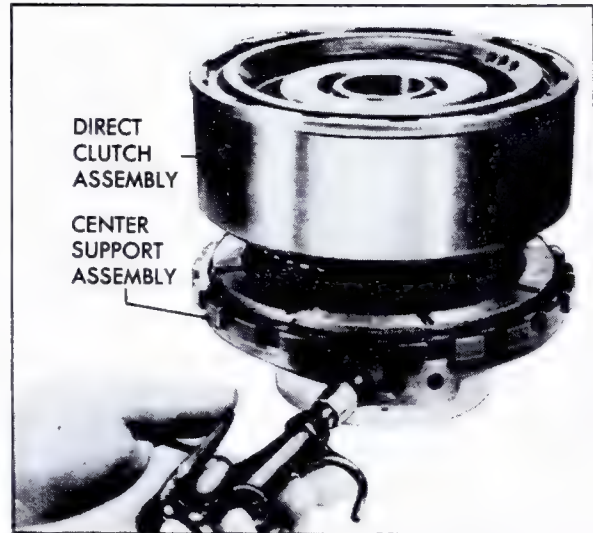

Fig. 7-87 Air Checking Direct Clutch
14. Place direct clutch assembly on center support and air check operation of direct clutch, Fig. 7-87.